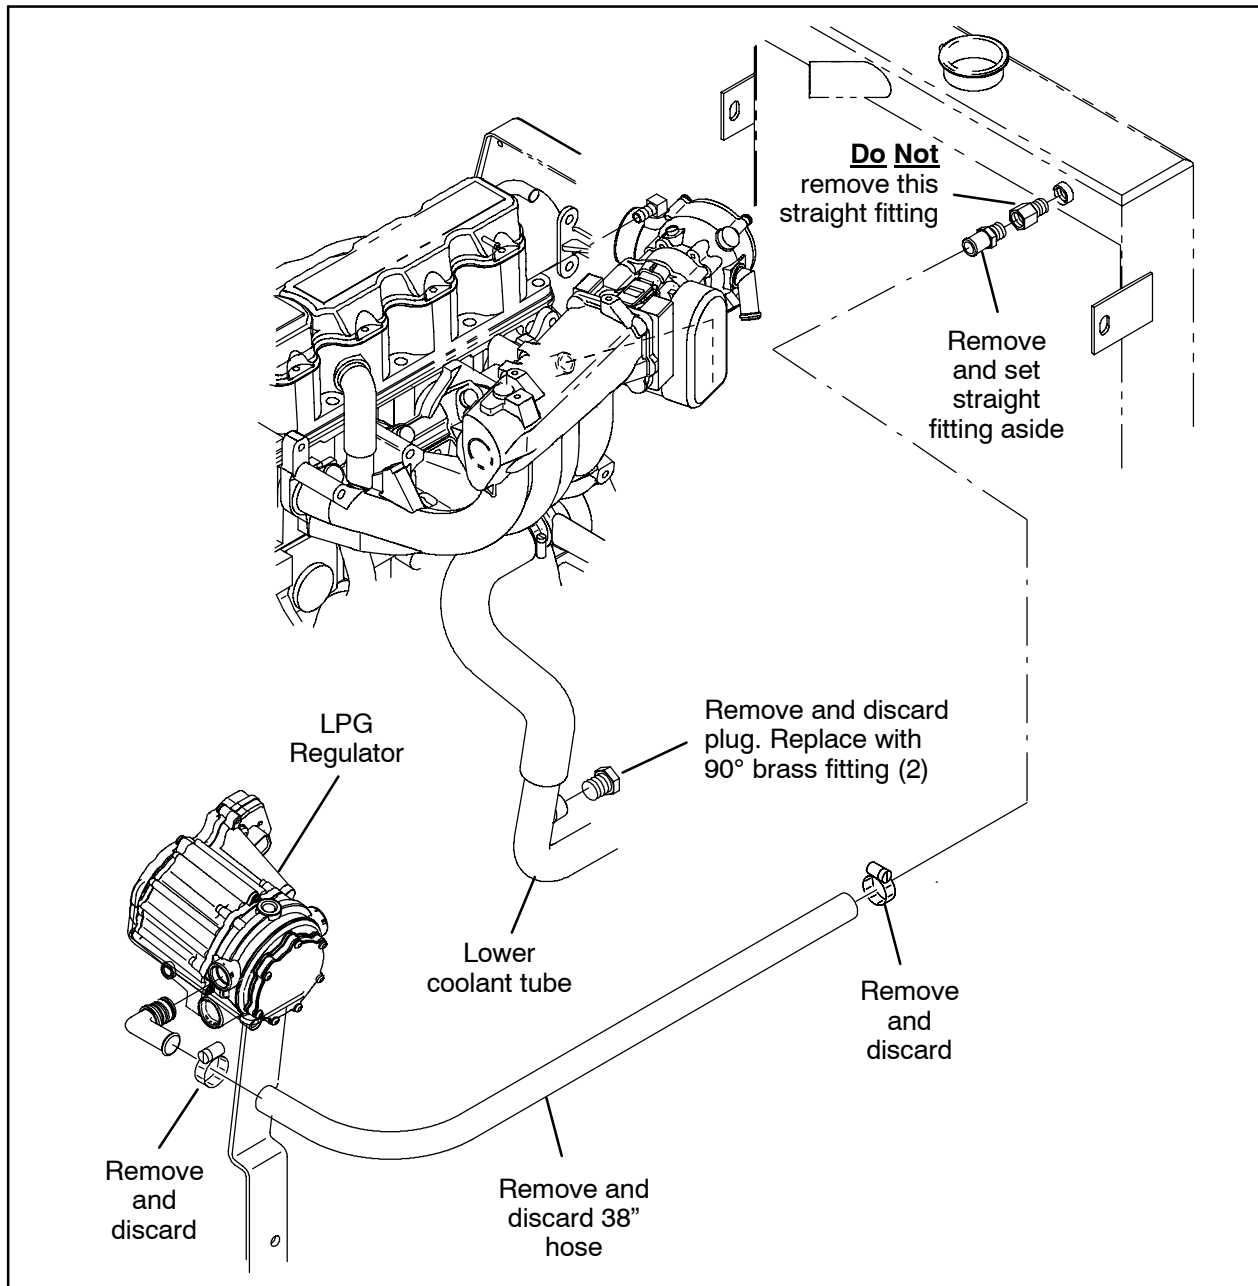

FIG. 1
1. Disconnect the 38" hose from the radiator and LPG regulation. Discard the heater hose and both hose clamps. Refer to Fig. 1.
2. Remove the straight brass fitting from the radiator. Set the straight fitting aside. Refer to Fig. 1.
3. Remove the plug from the lower coolant tube. Discard the plug Refer to Fig. 1.